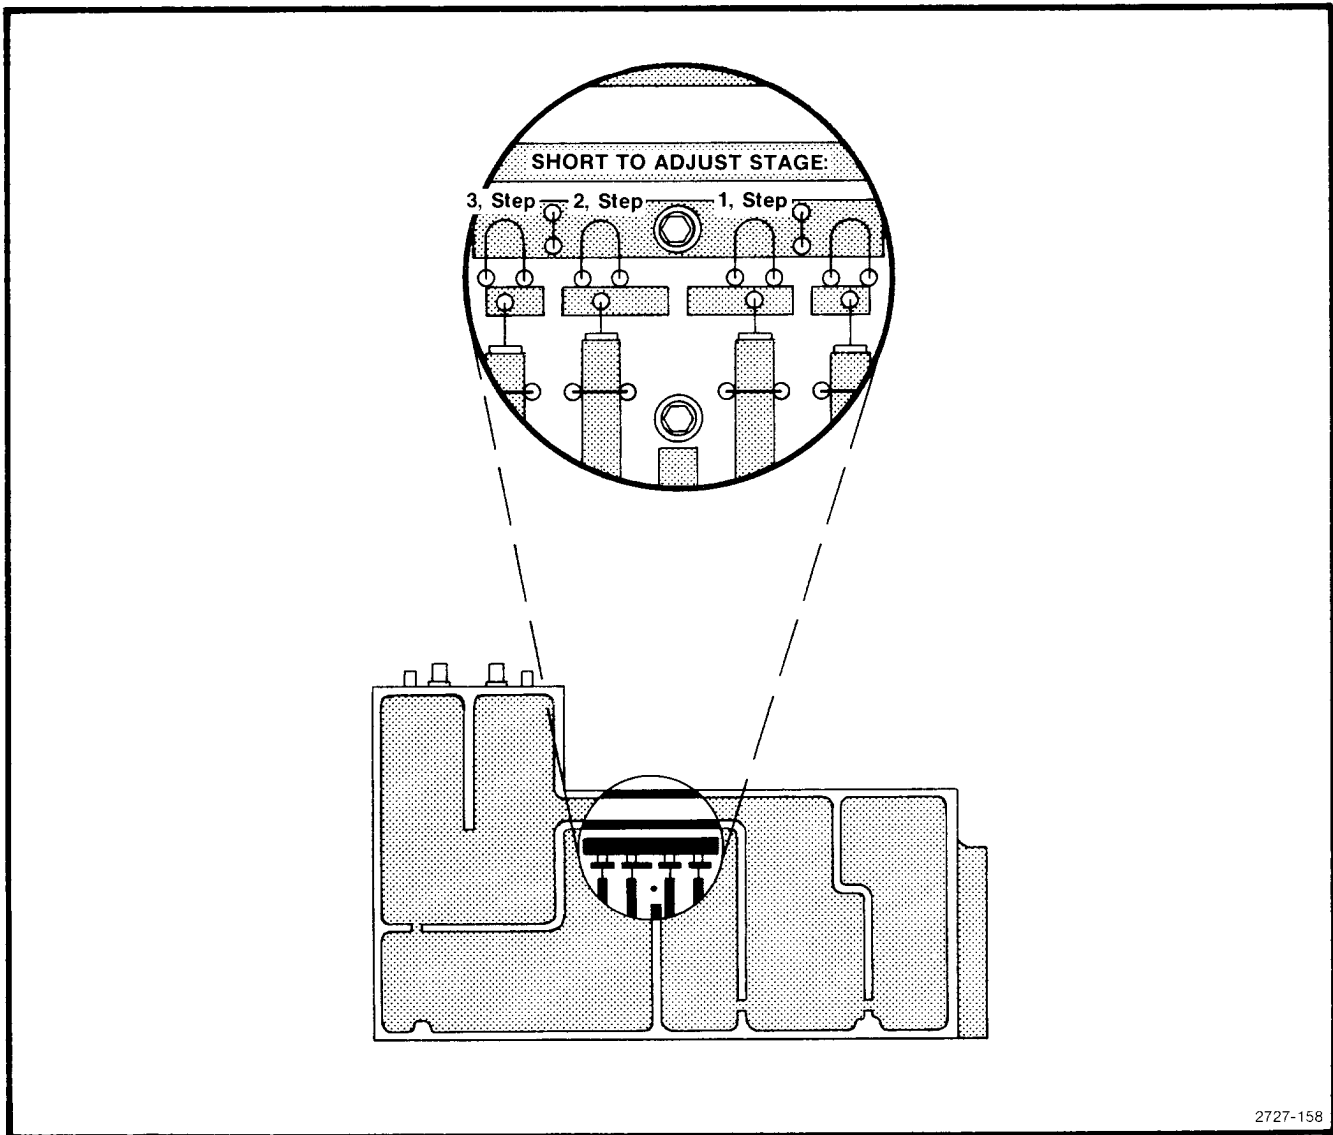

Fig. 4-15. Filter tune tabs in the 829 MHz converter.
f. Adjust the $1/4$ wavelength lines in the filter in sequence, starting with the resonator at the 829 MHz input (see Fig. 4-15). Adjustment is made by shorting the adjacent resonator to ground with a low inductance conductor, such as a broad blade screwdriver, then bend the loop or tab of the respective stub with a non-metallic tuning tool to change the series capacitance of the resonator.